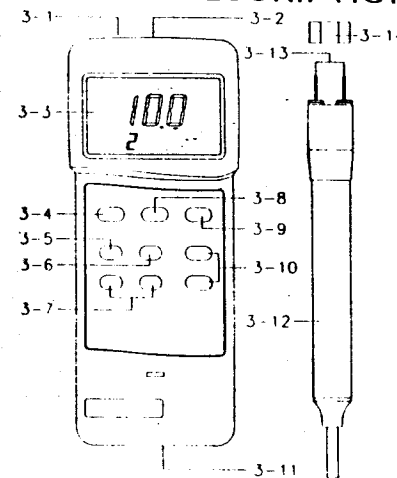

Fig. 1
- * During measurement, pushing the " Hold Button " (3-8, Fig. 1) will hold the display values & the LCD will show the " D.H " symbol.
- * The DATA RECORD function displays the maximum and minimum readings. To start the DATA RECORD function, press the " Record Button " (3-5, Fig. 1) once. "REC" marker will appear on the LCD display.
- Push the " RECALL Button " (3-6, Fig. 1) once, then the " Max " symbol with the maximum values recorded will appear on the LCD display.
- Remove the " Protection Rubber " (3-14, Fig.1) away from the " Test Pins " (3-13, Fig. 1).
- 1) * Select the material groups to group " 1 " using the " Material Select Button " (3-9, Fig. 1).
The instrument features an RS232 output via 3.5 mm. Terminal (3-1, Fig. 1).